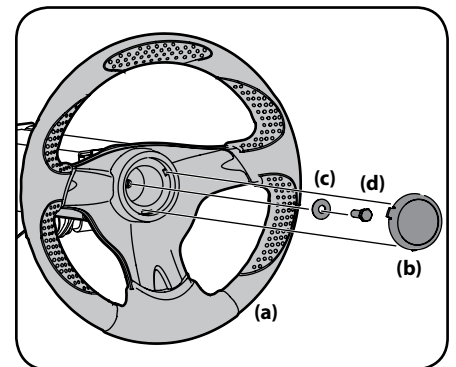

Figure 2-3
- Remove the hardware for attaching the steering wheel (a) from beneath the steering wheel cover (b). Carefully pry off the steering wheel cover (b) to remove the hardware. See Figure 2-3.
- With the wheels of the machine pointing straight forward, place the steering wheel (a) over the steering shaft. See Figure 2-3.
- Place the Belleville washer (c) with the cupped side facing inward over the steering wheel (a) and secure with the hex lock screw (d). See Figure 2-3.